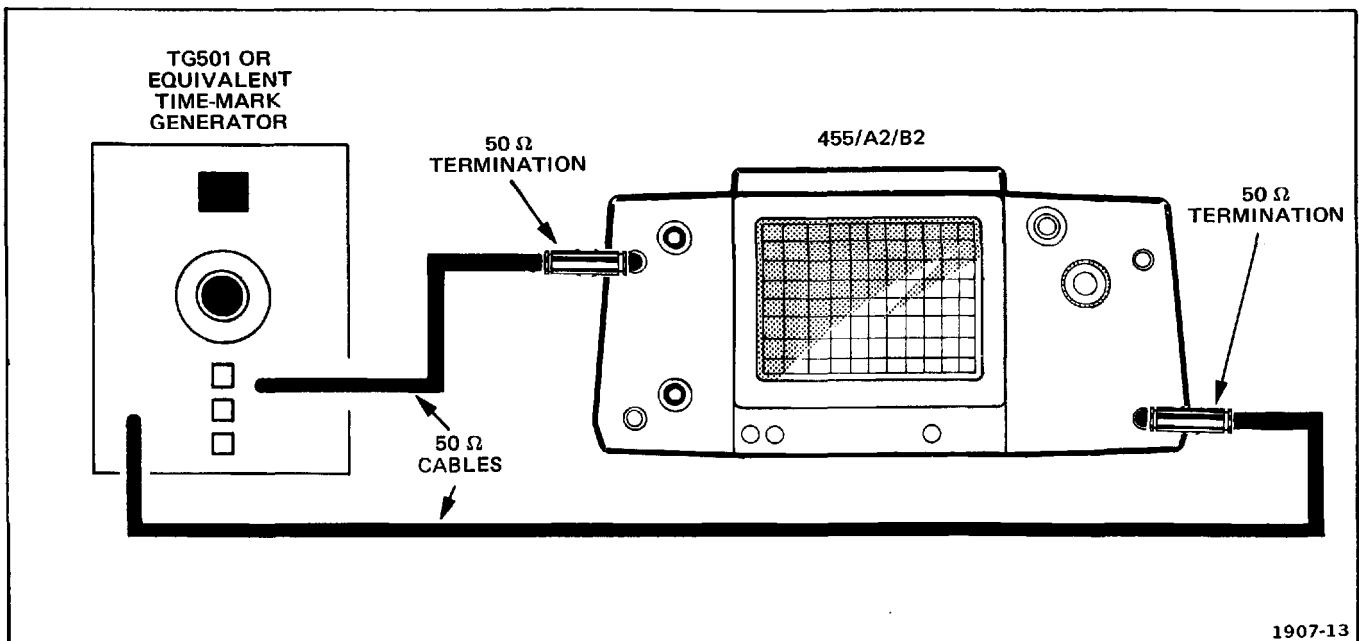

Fig. 3-6. Time-mark generator test setup.
b. Connect test equipment as shown in Fig. 3-6.